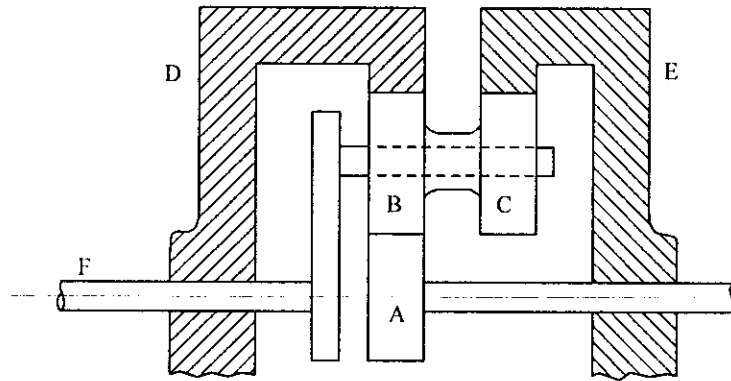

Fig. 7.48
8. In the epicyclic gear train shown in fig. 7.48, gear A rotates at 1000 rpm clockwise, while E rotates at 500 rpm anti-clockwise direction. Determine the speed and direction of the annulus D, and the shaft F. All gears are of the same pitch, and the number of teeth in A is 30, B is 20 and E is 80. [Ans. - 372 rpm, 40 rpm]